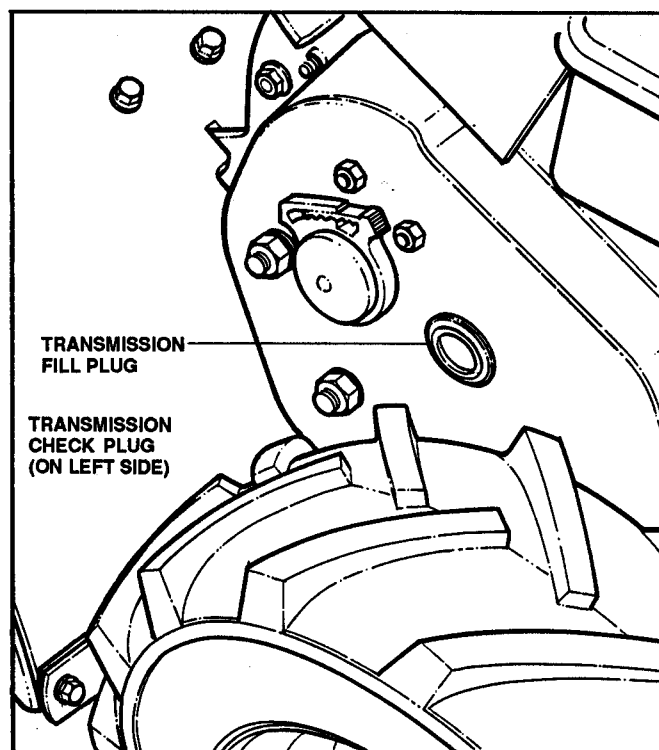

FIGURE 9
\*TRANSMISSION FILL PLUG NOT SHOWN. REFER TO FIGURE 9.
**CHAIN CASE:** Check the level of the grease in the chain case at the beginning of each tilling season. Check by removing the plastic plug located beside the axle shaft on the lower left hand side. The level should be up to the edge of the opening. To add grease, remove the filler plug located just forward of the pulley shaft on the R.H. side. Add **SNAPPER** Transmission grease as needed to bring level up to bottom edge of the check plug opening. The total capacity of the case is about 1 U.S. Standard quart - do not exceed this amount. Reinstall plugs after checking. See Figure 9.